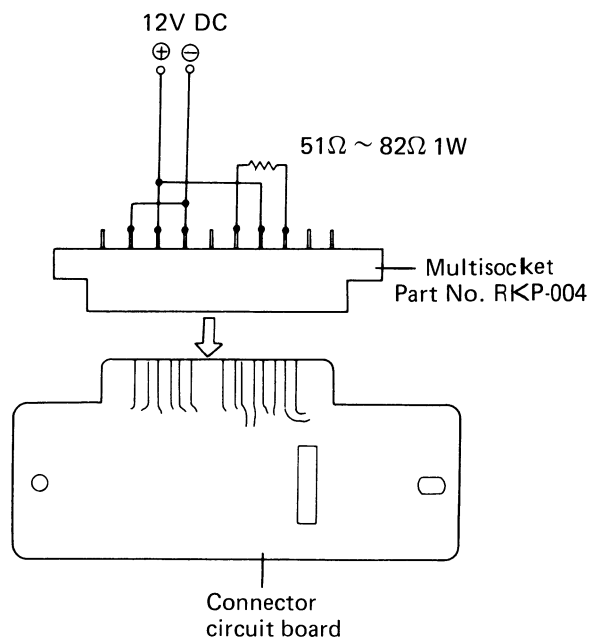

Fig. 40
1. Insert the specified wiring connector (Fig. 40) into the connector printed circuit board.
Fabricate an adjustment connector as shown in Fig. 40, using multisolet part No. RKP-004.